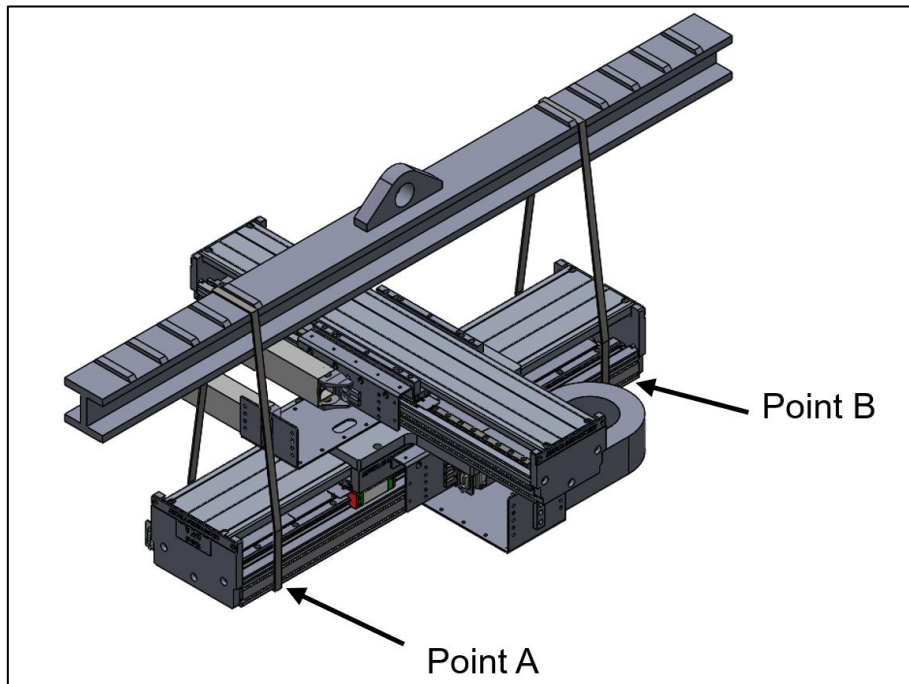

Figure 4.2.1 Hoisting and transporting
- ◆ Lift the linear motor system using the shipping devices (figure 4.2.1)!
- (1). Disconnect power supply.
- (2). Disconnect stage cables.
- (3). Remove the payload.
- (4). To transport LMSSA2X, hoist it at the points designated A and B (figure 4.2.1).
- (5). Ensure even load distribution while lifting.